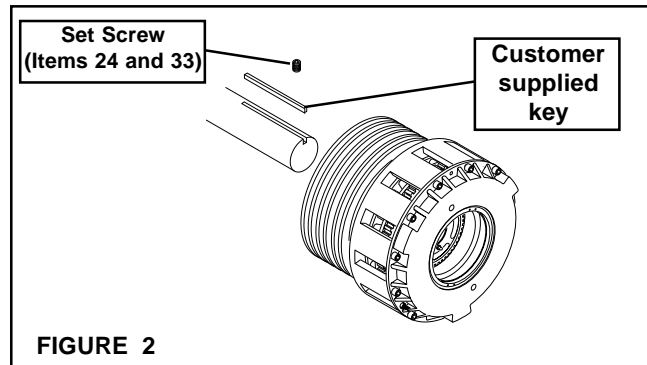

FIGURE 2
3. Insert the customer supplied key into the motor shaft (See Figure 2).
4. Slide the clutch onto the motor shaft (See Figures 2 and 3).
5. Apply a drop of Loctite® 242 to the threads of the three Set Screws (Items 24 and 33); then, insert and tighten the three Set Screws (See Figure 2).